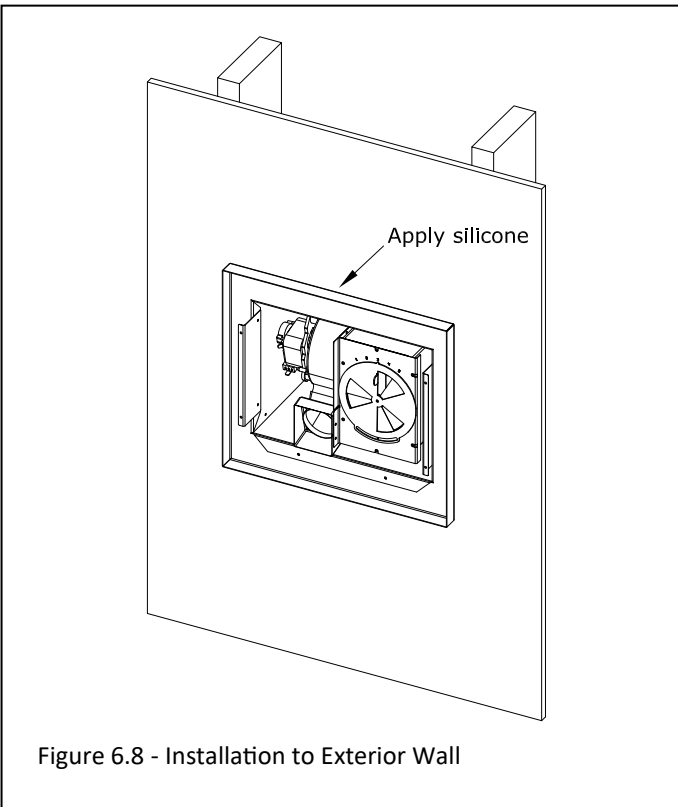

Figure 6.8 - Installation to Exterior Wall
6. Install the Kozy Power Vent shell into the framed opening if finishing material is 1" thick or less. Secure the assembly to the framed opening through the (8) holes shown in 6.4. Install the Kozy Power Vent to the Finishing Extension Kit using (8) threaded screws provided if the finishing material is greater than 1" thick. These (8) holes are located with (2) each side of the rubber gasket.
7. If the cap is fastened to the wall, apply a bead of silicone (with a minimum of 300°F continuous exposure rating) around the cap base where it meets the exterior wall. See Figure 6.8. If the cap is fastened to a Finishing Extension Kit apply a bead of silicone around the outside seam where the Kozy Power Vent and Finishing Extension Kit meet.